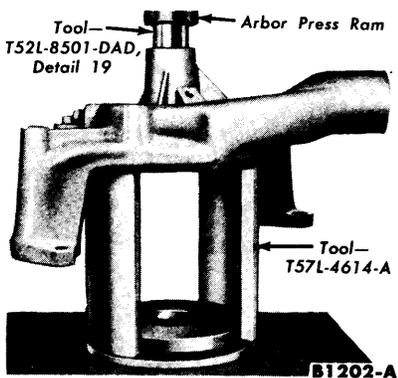

FIG. 3—Seal Removal
3. Press out the pump seal (Fig. 3).